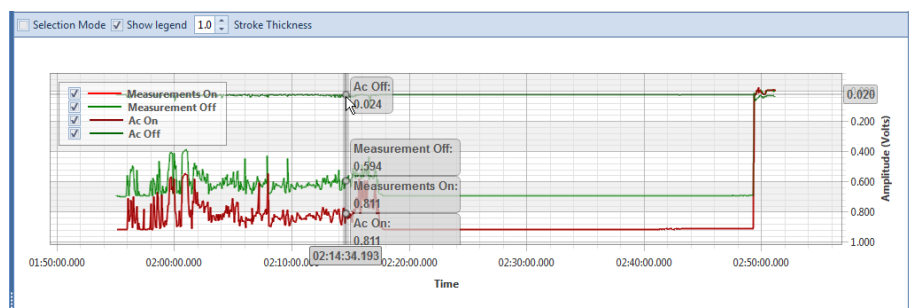

Figure 14-6. Tooltips with ON/OFF Measurements
- *Tooltips with ON/OFF Measurements*: Placing the mouse over a point in the graph displays tooltips with corresponding ON/OFF voltage measurements (Figure 14-6).